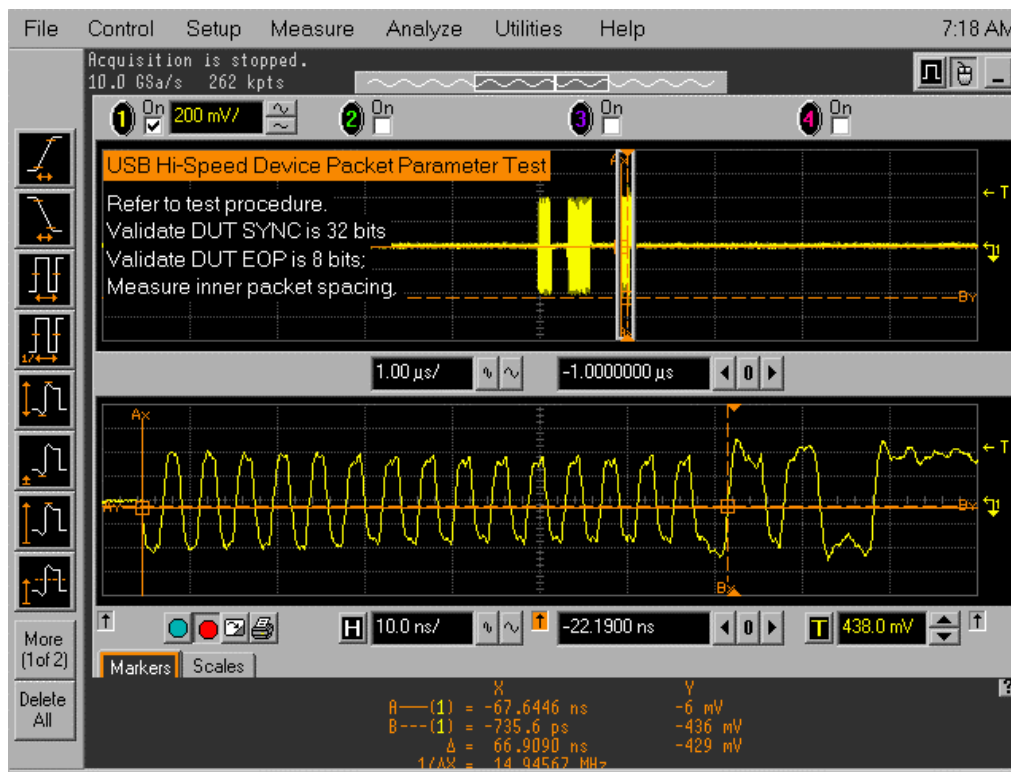

Figure 24. Host and Hub Packets
- a. The oscilloscope capture should appear as in Figure 24.
11. Measure the sync field length (number of bits) of the third (from device) packet on the oscilloscope and verify that it is 32 bits per EL_21 (Figure 24)